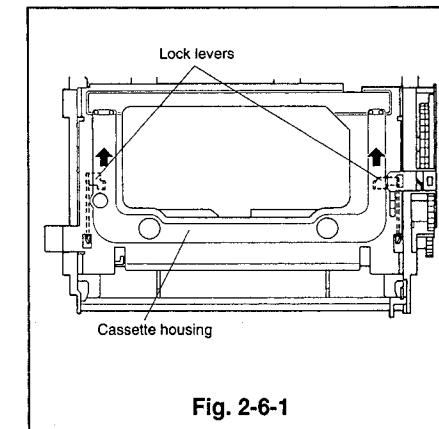
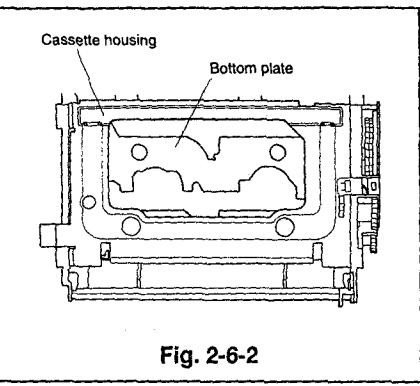
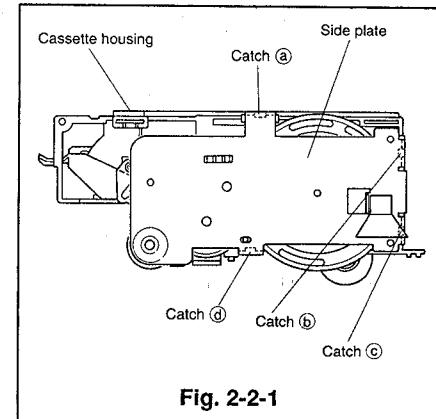
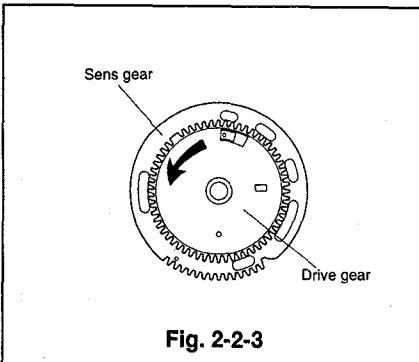

Fig. 2-6-1
Fig. 2-6-2
Fig. 2-2-1
Fig. 2-2-3
- ④ Pull the lock levers on both the supply and takeup side, shown in Fig. 2-6-1, in the direction shown by the arrow to shift the bottom plate to the position shown in Fig. 2-6-2.
- ⑤ Remove the takeup arm.
- ② Unfasten the four catches (Ⓐ, Ⓑ, Ⓒ and Ⓓ) as shown in Fig. 2-2-1 and remove the side plate.
- ③ Remove the sens gear.
- ④ Pull the lock levers on both the supply and takeup sides, shown in Fig. 2-6-1, in the direction shown by the arrow to shift the bottom plate to the position shown in Fig. 2-6-2.
- ⑥ To remove the drive gear from the sens gear, turn and pull the drive gear in the direction shown by the arrow shown in Fig. 2-2-3.
- ⑦ Install the takeup arm so that the shaft from the bottom plate enters between the takeup arm and takeup spring, after the bottom plate is in the position shown in Fig. 2-6-2.